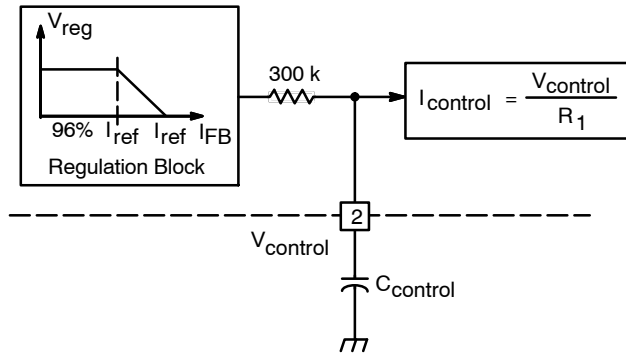

Figure 30.  $V_{control}$  Low-Pass Filtering
Control current  $I_{control}$  is a roughly constant current that comes from the PFC output voltage  $V_{out}$  that is a slowly varying signal. The bandwidth of  $I_{control}$  can be additionally limited by inserting an external capacitor  $C_{control}$  to the control voltage  $V_{control}$  pin (Pin 2) in Figure 30. It is recommended to limit  $f_{control}$ , that is the bandwidth of  $V_{control}$  (or  $I_{control}$ ), below 20 Hz typically to achieve power factor correction purpose. Typical value of  $C_{control}$  is between 0.1  $\mu$ F and 0.33  $\mu$ F.
Feedback current  $I_{FB}$  which represents the output voltage  $V_{out}$  is processed in a function with a reference current ( $I_{ref} = 200 \mu A$  typical) as shown in regulation block function in Figure 32. The output of the voltage regulation block, low-pass filter on  $V_{control}$  pin and the  $I_{control} = V_{control} / R_1$  block is in Figure 30 is control current  $I_{control}$ . And the input is feedback current  $I_{FB}$ . It means that  $I_{control}$  is the output of  $I_{FB}$  and it can be described as in Figure 32. There are three linear regions including: (1)  $I_{FB} < 96\% \times I_{ref}$ , (2)  $96\% \times I_{ref} < I_{FB} < I_{ref}$ , and (3)  $I_{FB} > I_{ref}$ . They are discussed separately as follows: